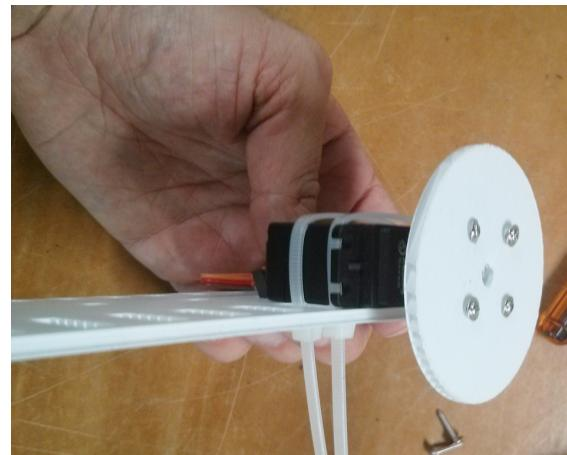

Figure 1-4 Servo mounted to the chassis
3. Next, mount the servos to the chassis, as shown in Figure 1-4. You want to place these more or less to the front so the weight balances. You can put them anywhere, but bear in mind you may need to weigh down one end if you find it's tipping. Mount the servos so the side with the wheel is closest to the front of the chassis, and attach them with two cable ties through the mounting holes to keep them in place. Use two cable ties so the servo body doesn't twist when you start driving.